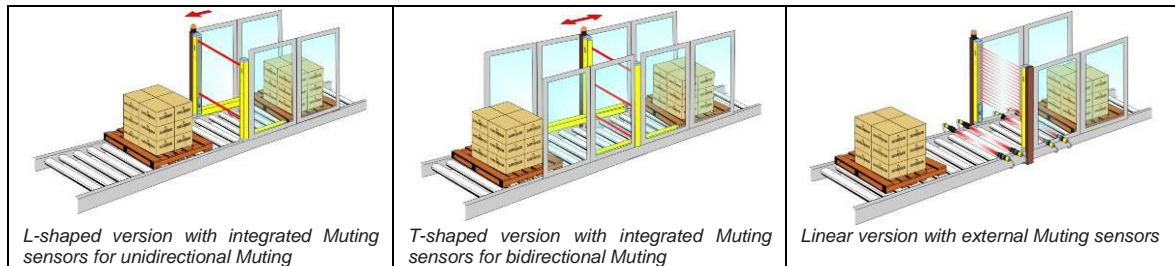

Figure 36
- The Muting function, excludes the light curtain during functioning, maintaining active the OSSD outputs, according to particular operating requirements (Figure 36).